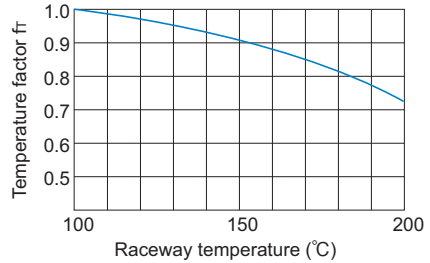

Fig.2 Temperature Factor (f_t)
- C : Basic dynamic load rating (N)
- P_C : Calculated load (N)
- f_T : Temperature factor (see Fig.2 on **A4-37**)
If the temperature of the environment surrounding the operating Linear Bushing exceeds 100°C, take into account the adverse effect of the high temperature and multiply the basic load ratings by the temperature factor indicated in Fig.2.